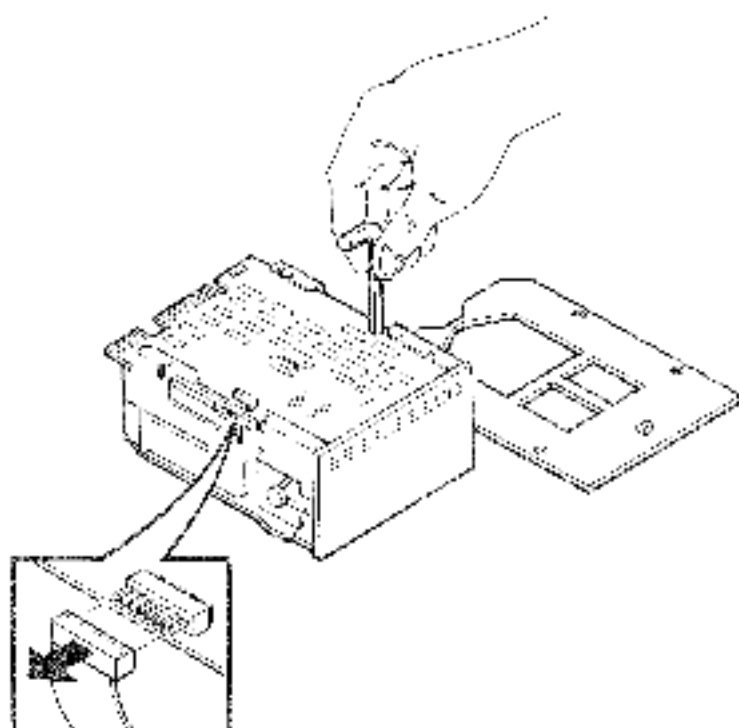

Figure 8-8 RD51 Disk Drive Allen Screws and Connector P5 Removal
2. Using a 3/16-inch Allen wrench, remove the four screws that hold the read/write printed circuit board to the fixed-disk drive (Figure 8-8).